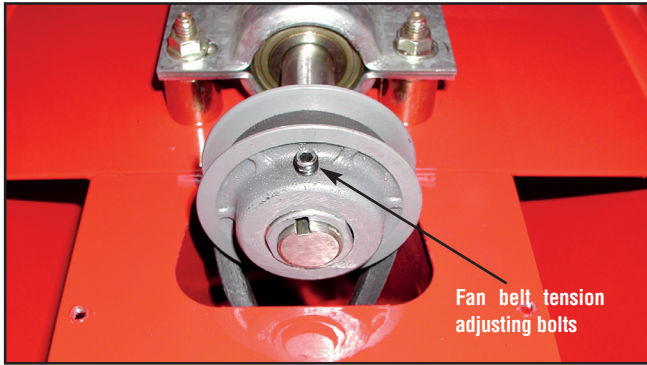

Figure 3
- Loosen the set screw on the fan pulley or motor pulley. Fig. 3 shows the construction of the fan pulley, the motor pulley is the same construction.